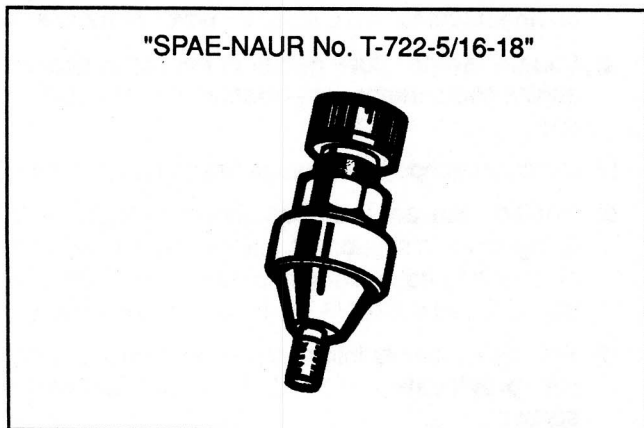

Fig. 3 - Wrench-type Header Tool
- b) Using a wrench-type header tool (SPAE-NAUR No. T-722-5/16-18 - Fig. 3), install a 5/16-18 x 3/4" rivet nut into each mounting hole. Upon actuation of tool, the shank of the rivet nut will expand tightly against panel.